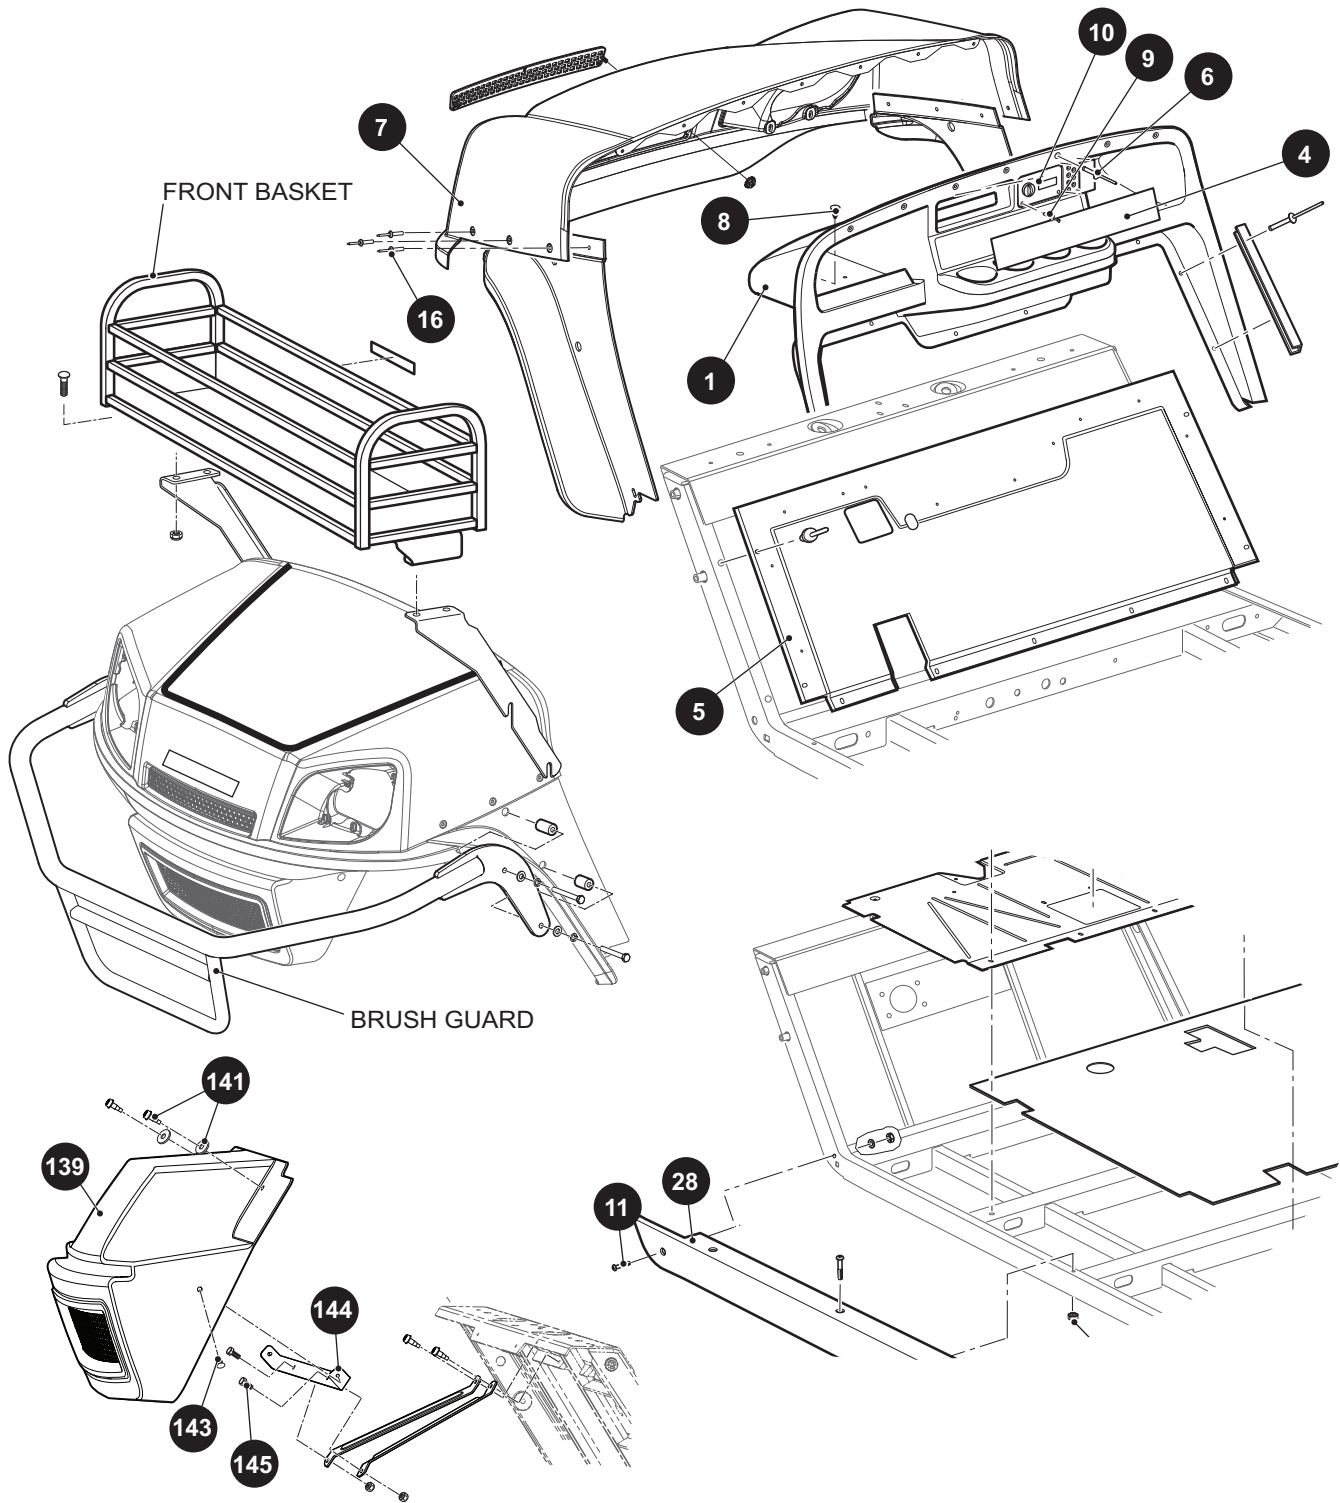

Figure 4 Body Components (Front)
Pull the front of the floor mat (5) up to expose the rivets (6) that secure the instrument panel (1) to the floor. Drill out the rivets attaching the bottom of the instrument panel to the floor and across the top of the instrument panel attaching it to the cowl (7) (Ref. Figure 4).
Drill out the rivets (6) across the top of instrument panel (1) attaching it to the cowl (7) (Ref. Figure 4) and
The front fascia (139) need not be removed to replace any other body components (Ref. Figure 4).